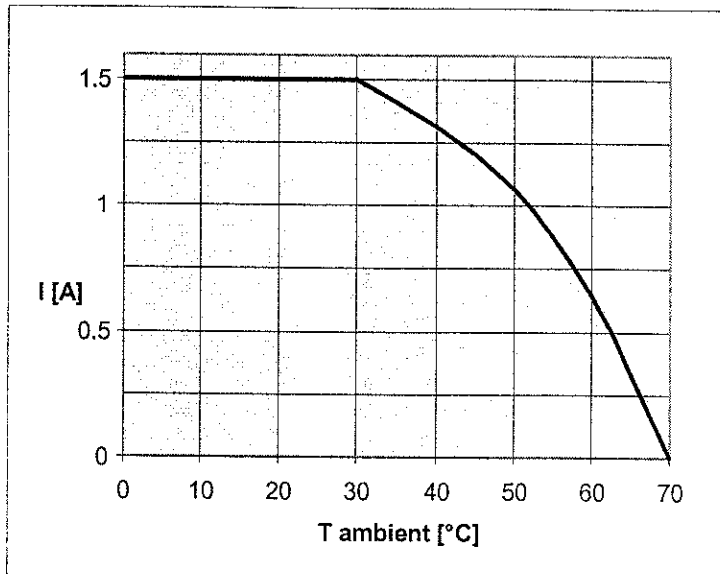

Figure 1: Current derating curve.
- D. Derating curve: IEC 512-3 Test 5b, standard atmospheric conditions. See figure 1.